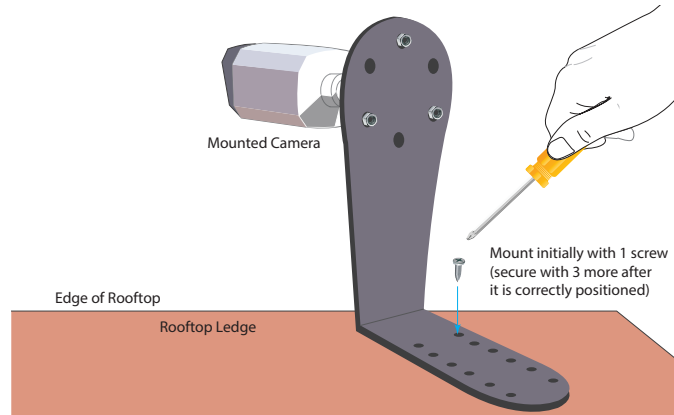

Fig. 2.2
6. Mount the bracket to the rooftop ledge using just one screw to begin with. See Fig 2.2.